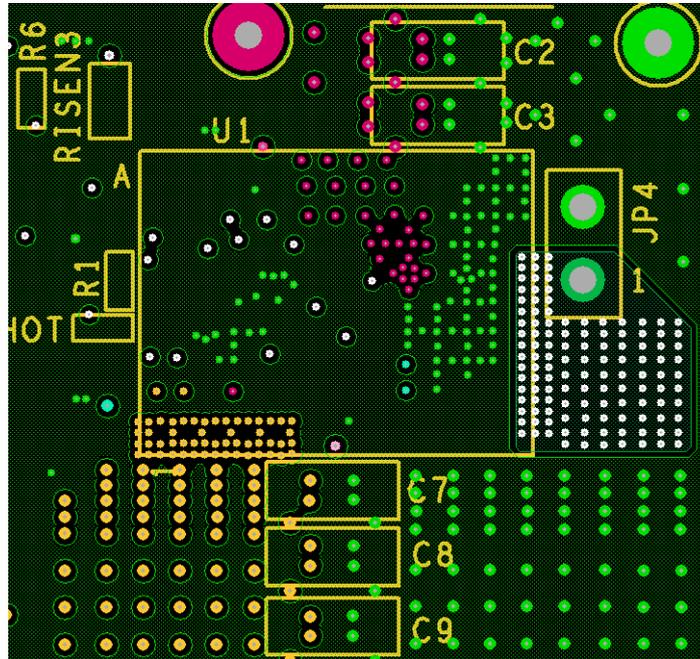

Figure 39. Layout Example - Large Area Ground Planes in Layer 2 and Layer 5.
- Use full ground planes in the second layer (underneath the module) and in the fifth layer, which is the layer above the bottom layer which contains components such as input caps, output caps and other passive components. Use the inner layers 3 and 4 to route the other signals. A layout example of a large area ground plane is shown in Figure 39.